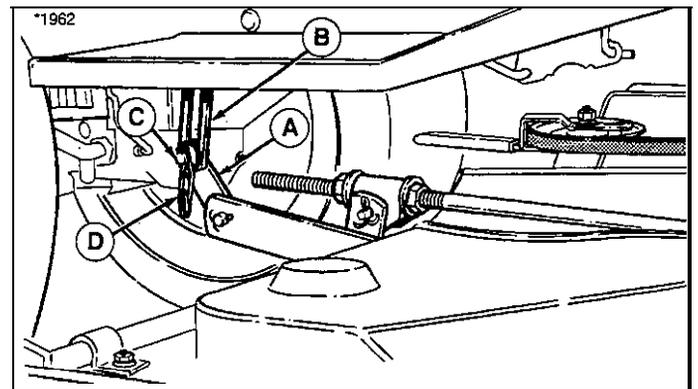

Figure 12. Lift Arms
4. See Figure 12. Connect the mower lift arm (A) to the tractor lift arm (B) using the flat washer (C) and safety clip (D).